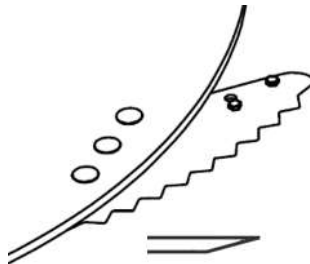

Figure 57 — Knives Turned Over, With the Tungsten Coating on Top
3. When the tungsten coating underneath the knives starts to wear off, turn all the knives over so that the tungsten coating is on top (Figure 57).